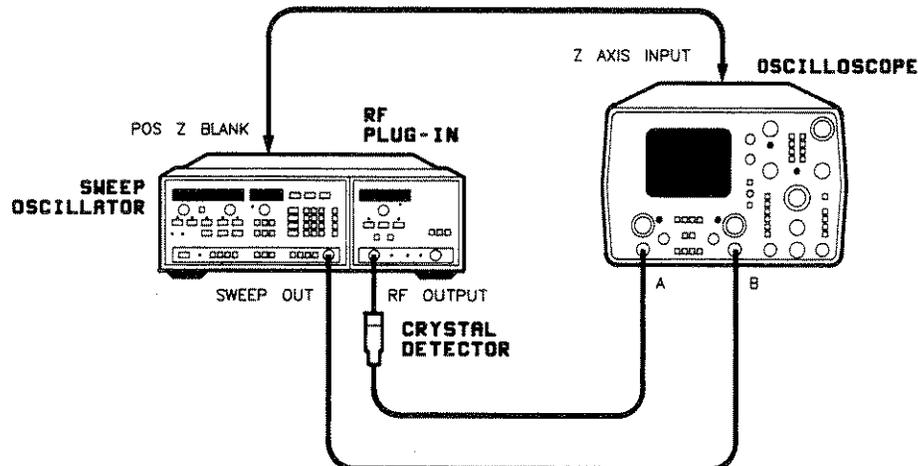

Figure 4-2. Swept Power Measurement Test Setup
1. Connect the equipment as shown in figure 4-2.